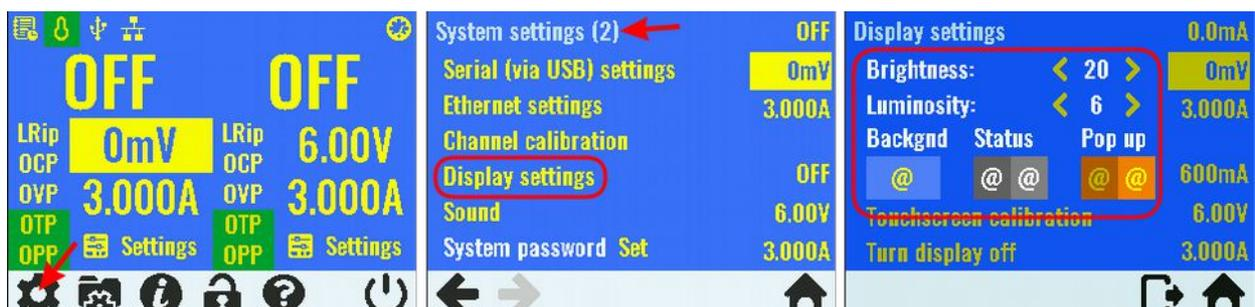

Fig. 35: Display settings page (firmware v1.01)
- **Display colors are "washed out"** – it appears that for used "noname" display backlight and colors intensity could vary considerably. While testing we found about half of dozen different level of backlight intensity. We tried to rectify that to some extent by offering display brightness and background color (i.e. the blue one) luminosity settings. You can find that parameters under system settings page 2 as shown on Fig. 35. We tried to set the most appropriate luminosity level for your display. The default value is 15 but if your found here e.g. 10 (for firmware v1.0) that means that your display is unfortunately is too bright (hence lower value). In that case the real "cure" is to start hunting for better unit on eBay or similar online shops.